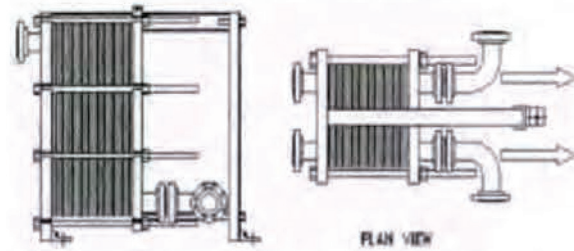

Figure 2.3 Mobile Head Fitted with Spool Nozzles
- Nozzles located at the mobile head must be Installed with spool pieces as shown In figure 2.3. to allow the head to move fully backward.